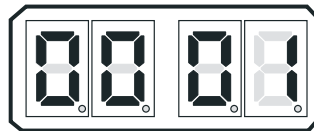
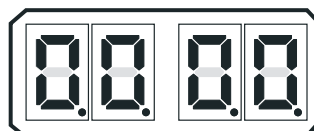

Figure 10-12: Example Display Station A/D's Transfer Button Depressed for Stations 1 - 4
Figure 10-13: Display Station A/D/s Transfer Button Depressed for Station 5
- B For Stations 1 - 4 when the Transfer Button is depressed, the 0 which represents that remote station, will change to a 1 as shown in Figure 10-12: Example Display Station A/D's Transfer Button Depressed for Stations 1 - 4. For Station 5 when the Transfer Button is depressed, all four decimal points will light as shown in Figure 10-13: Display Station A/D/s Transfer Button Depressed for Station 5